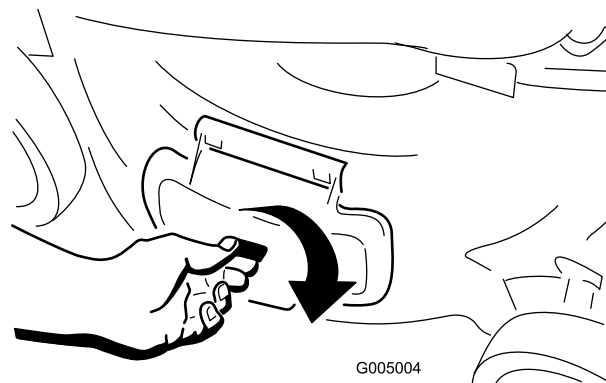

**Figure 21**
2. Install the side discharge chute (Figure 21).